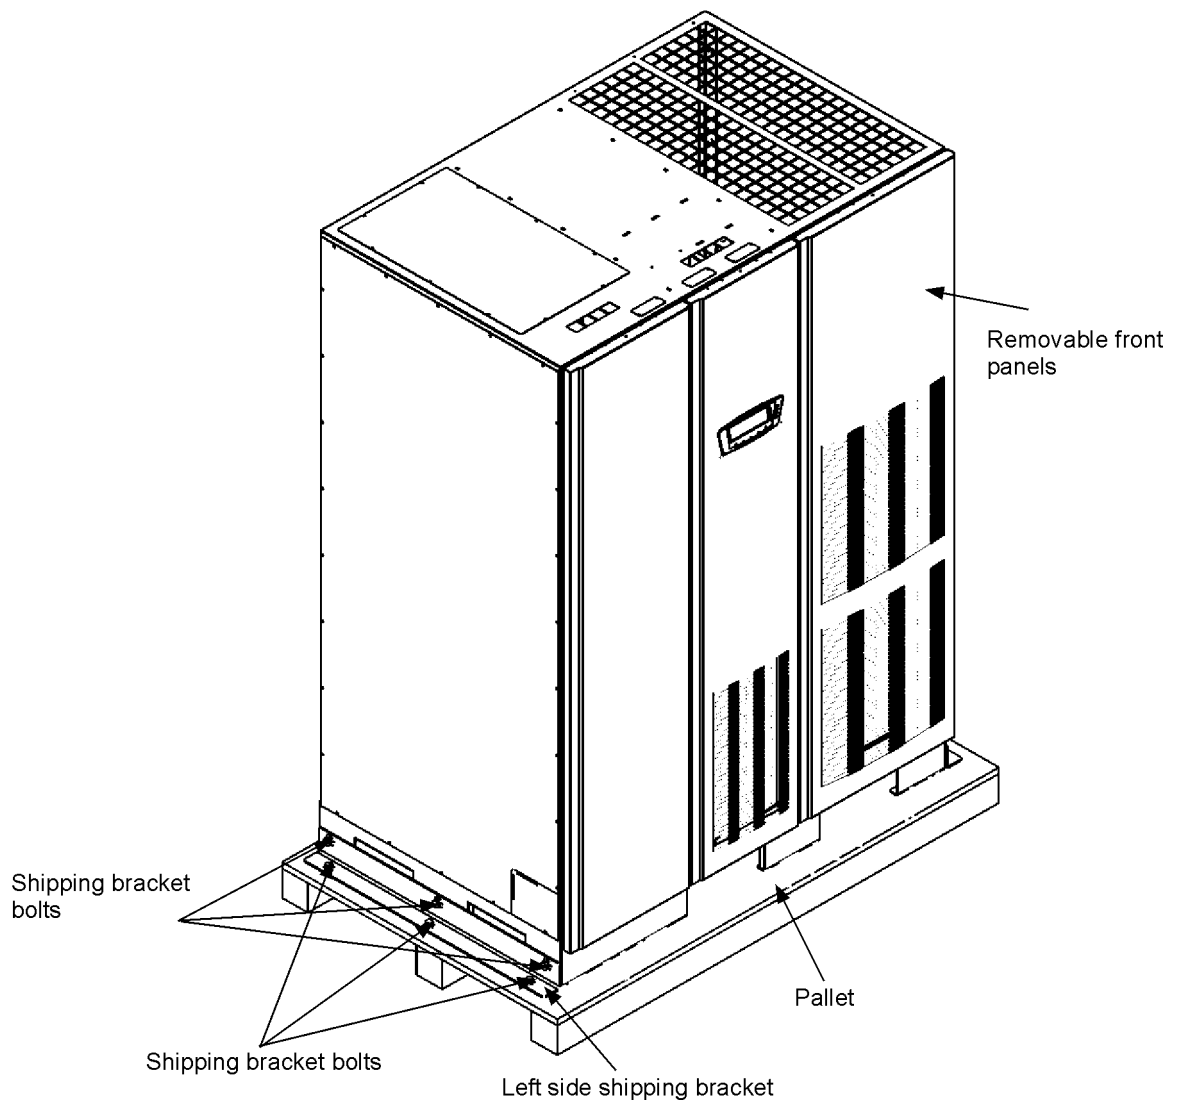
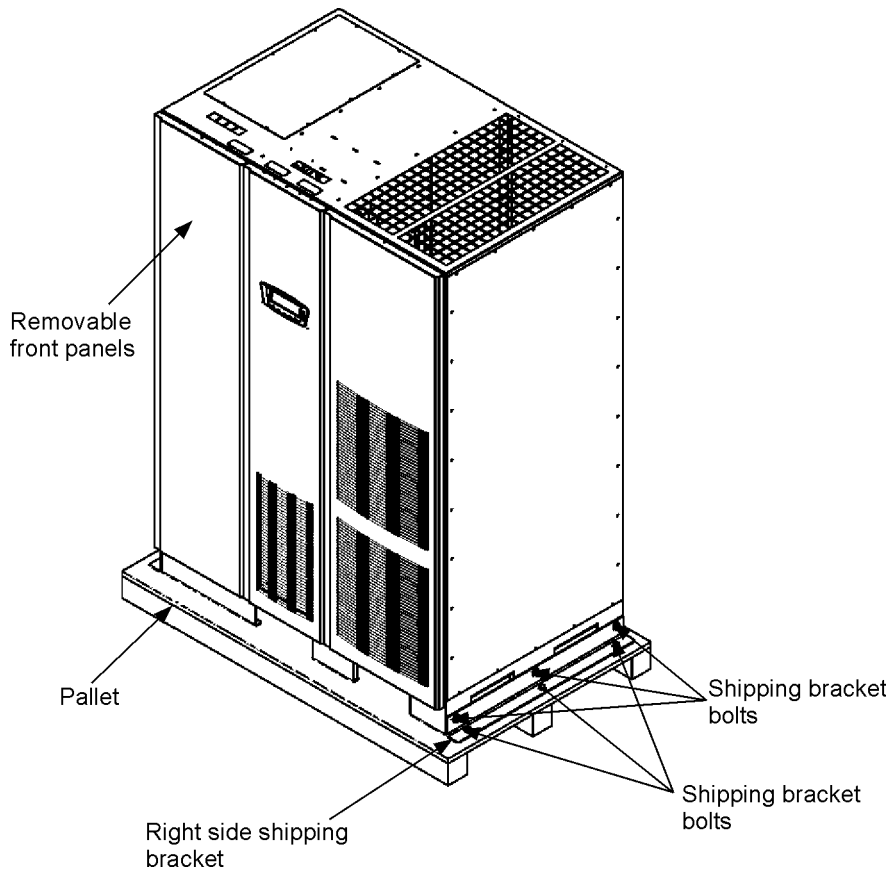

Figure 3-1. Removing left side shipping bracket
Figure 3-2. Removing right side shipping bracket
2. Remove the three bolts securing the left side shipping bracket to the cabinet and three bolts securing the bracket to the pallet (see Figure 3-1). Remove the front shipping bracket. If installing the cabinet permanently, retain the shipping bracket and securing hardware for later use.
3. Remove the three bolts securing the right side shipping bracket to the cabinet and three bolts securing the bracket to the pallet (see Figure 3-2). Remove the front shipping bracket. If installing the cabinet permanently, retain the shipping bracket and securing hardware for later use.
9. Using the retained hardware, reinstall the shipping brackets removed in Steps 2 and 3 to the left and right side of the UPS cabinet with the angle facing outward (see Figure 3-1 and Figure 3-2).
1. Remove one top screw and two bottom screws securing the UPS left front panel (see Figure 3-1). Lift the panel straight up to remove from the panel hanger bracket at the top of the cabinet.
2. If not already accomplished, remove one top screw and two bottom screws securing the UPS left front panel (see Figure 3-1). Lift the panel straight up to remove from the panel hanger bracket at the top of the cabinet.
3. Remove one top screw and two bottom screws securing the UPS center front panel (see Figure 3-1). Lift the panel straight up to remove from the panel hanger bracket at the top of the cabinet.